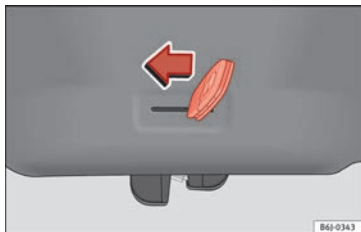
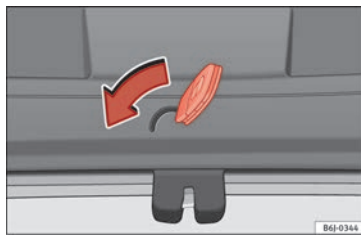

Fig. 4 IBIZA/IBIZA SC: Unlocking the rear lid manually.
Fig. 5 IBIZA ST: Unlocking the rear lid manually.
- Insert the key in the groove and unlock the locking system, turning the key from right to left, as shown by the arrow » **Fig. 4**, » **Fig. 5**.